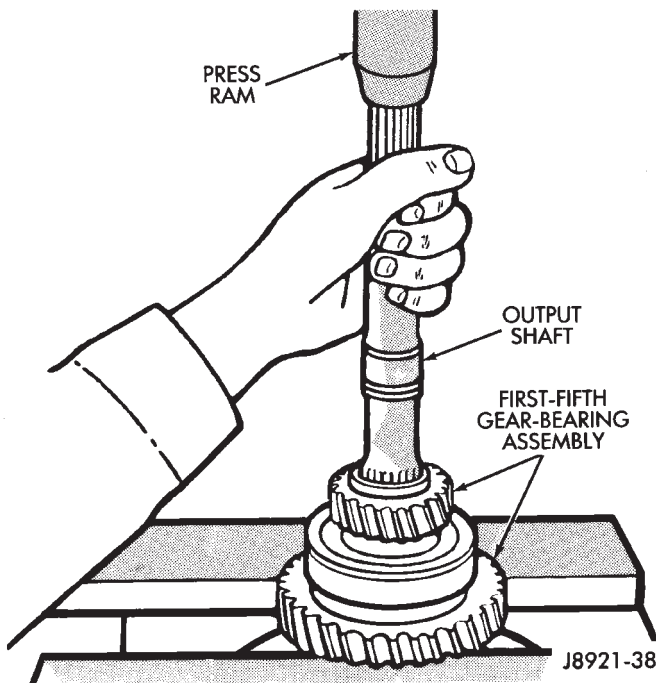

Fig. 103 Remove Fifth Gear, First Gear Bearing, And Race
- (4) Using Bearing Splitter P-334 or suitable press plates positioned under first gear, press fifth gear, rear bearing, first gear, and first gear bearing inner race off output shaft (Fig. 103).